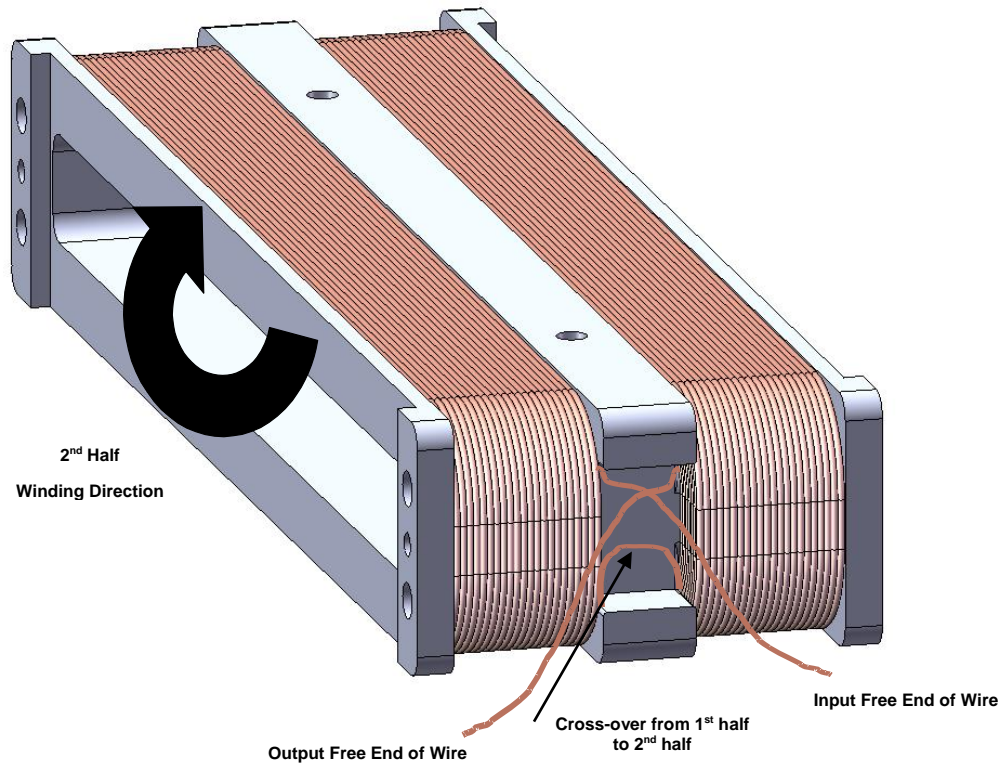

Figure 2: Finish the TOP Half with ‘Output’ Wire Coming out in the Termination Zone
19. The last layer should return the magnet wire back to the center of the bobbin, as shown in Figure 2. Verify that the winding counter now reads 0 +/- 4 counts.
Figure 2: Start Winding the BOTTOM Half of the Bobbin from the Center Outward – Winding CCW Looking from the BOTTOM of the bobbin – The Input lead to BOTTOM half will be POSITIVE Lead